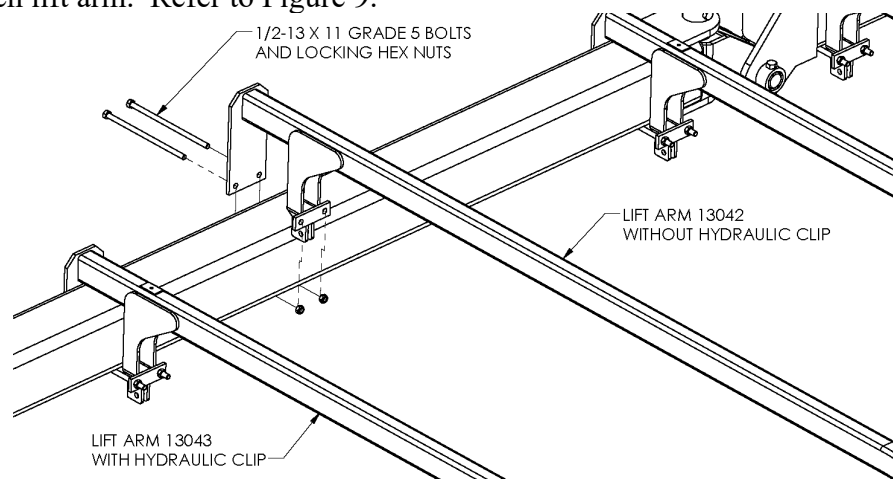

Figure 9
2. Center a lift arm on each of these marks and secure using two 1/2" x 11" bolts and locking hex nuts for each lift arm. Refer to Figure 9.